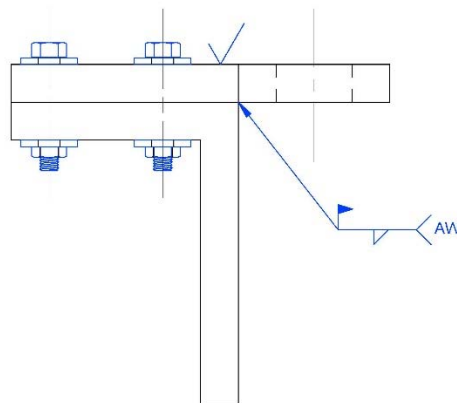

Figure 5-18
9. Place a Finish Symbol and Welding Symbol as shown in Figure 5-18.